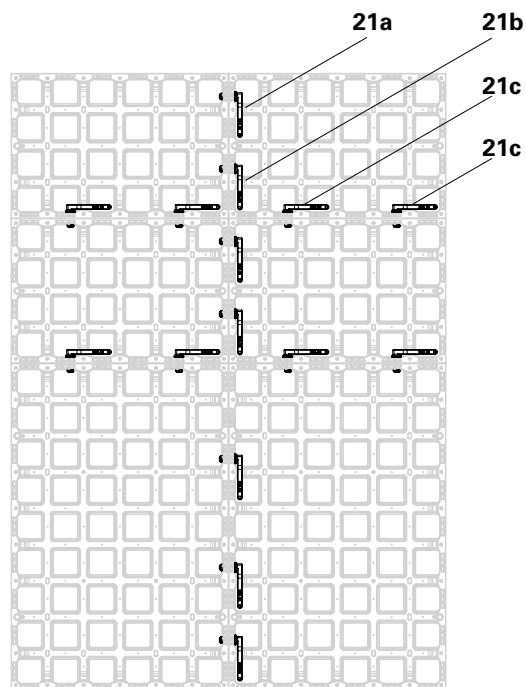

Fig. A3.04
- DUO coupler (**21c**) in the second connector pocket from the outside in each case. (Fig. A3.04)